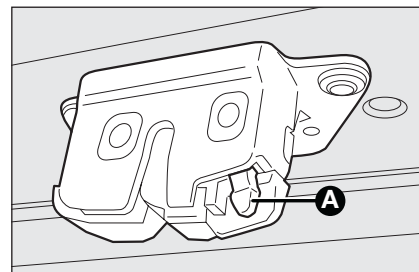

fig. 72
- ☐ working inside the luggage compartment, press lever **A-fig. 72** and open the tailgate.